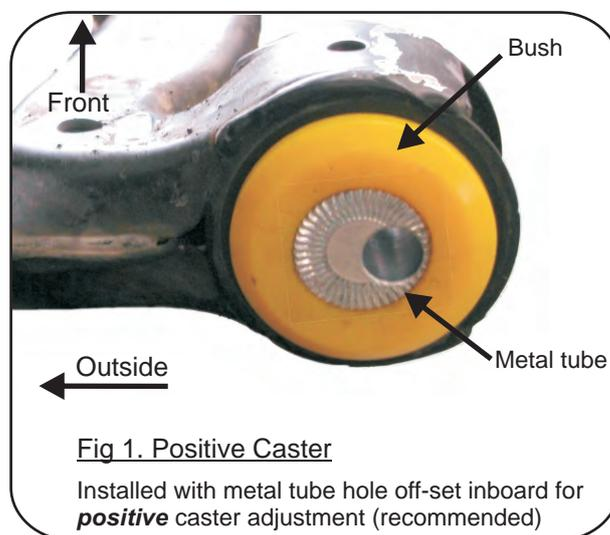

Fig 1. Positive Caster
*Note: To increase caster, align the metal tubes with the holes off-set towards the **inside** of the car. Refer Fig 1. This has the effect of lengthening the control arm, and pivoting the wheel forward about the front bush.*